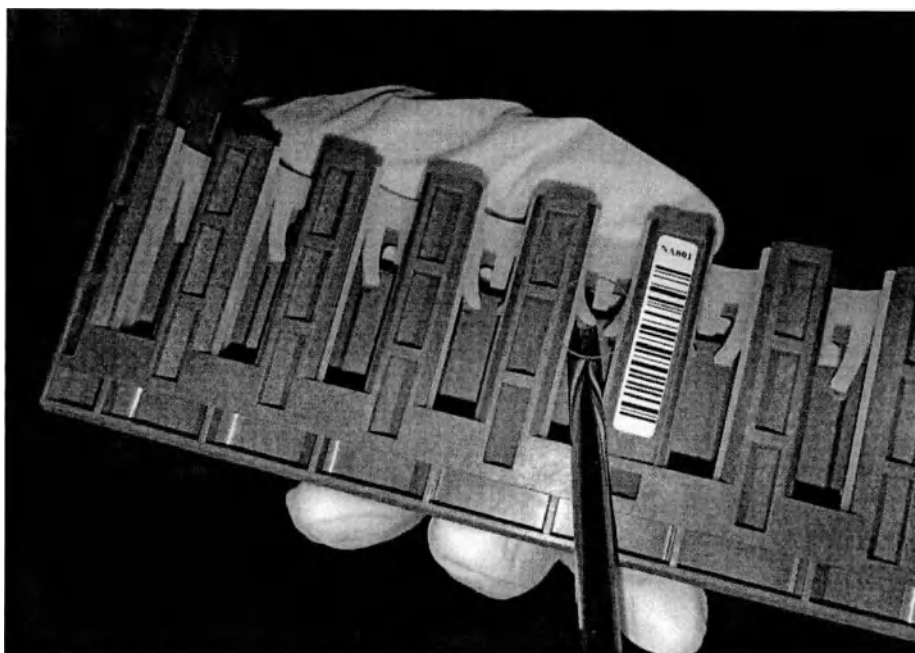

Fig. 4.6-1. Lifting the retainer
1. Take a pointed instrument, pry the tip of the instrument from the inner cell retainer of the sample rack as shown in Figure 4.6-1, and gently lift the retainer.